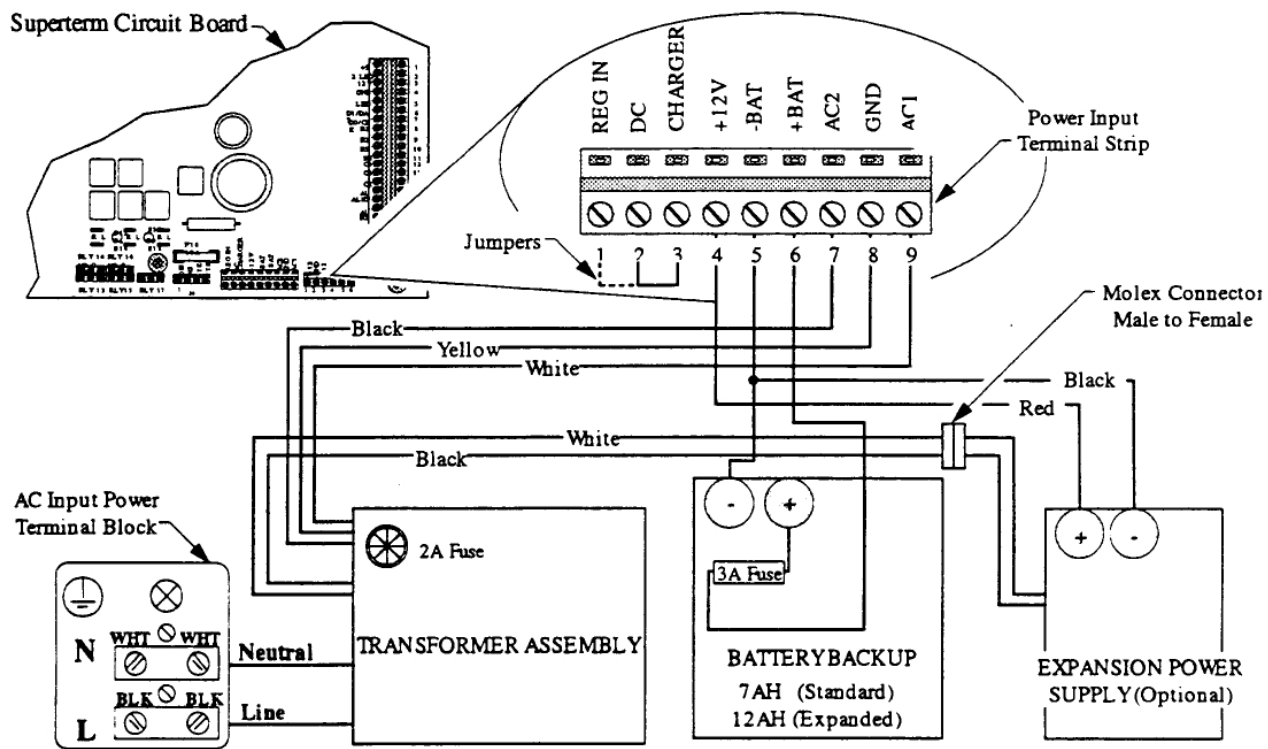

Figure 9 - Connecting Transformer, Battery, and Power Supply to Superterm Circuit Board
Table 2 lists the connections between the Step-Down Transformer and the Superterm Power Input terminal strip. Refer to Figure 9, page 19, while reading Table 2 for Step-Down Transformer to Superterm Circuit Board connections.
If the Superterm is equipped with an Expansion Power Supply, connect the female Molex connector from the Expansion Power Supply to the male Molex connector of the Transformer Assembly (see Figure 9).
Pins 1, 2, and 3 of the standard Superterm (with no Expansion Power Supply) must be jumped together. Table 3 lists the pin connections on the Power Input terminal strip that require jumpers. Refer to Figure 9, page 19 while reading Table 3 for Power Input terminal strip jumper connection.
Table 4 lists the connections from the Battery Backup to the Superterm Power Input terminal strip. Refer to Figure 9, page 19, while reading Table 3 for Battery Backup to Superterm Circuit Board connections.
Table 5 lists the connections from the Expansion Power Supply to the Power Input terminal strip (see Figure 9).
**NOTE:** Connect the female Molex connector from the Expansion Power Supply to the male Molex connector of the Transformer Assembly (see Figure 9).
Using the Expansion Power Supply requires placing a jumper between pins 2 and 3 of the Power Input terminal strip (see Figure 9 and